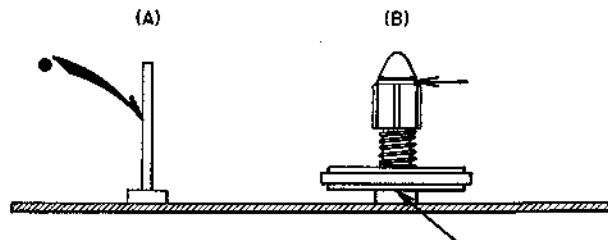

Fig. 15
(10) REEL TABLE ADJUSTMENT (See Fig. 15)